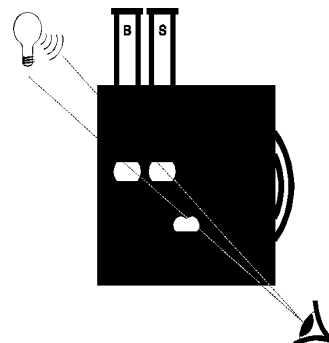

Figure 3, Comparing the Blank and the Sample
- Insert tube of treated water sample in the right top opening of the comparator, give it a few seconds for the chemical to react. (See Figure 3).
- Elevate the color comparator to eye level up to a light such as the sky, window, or lamp, rotating disk until the closest match is achieved. (See Figure 3).